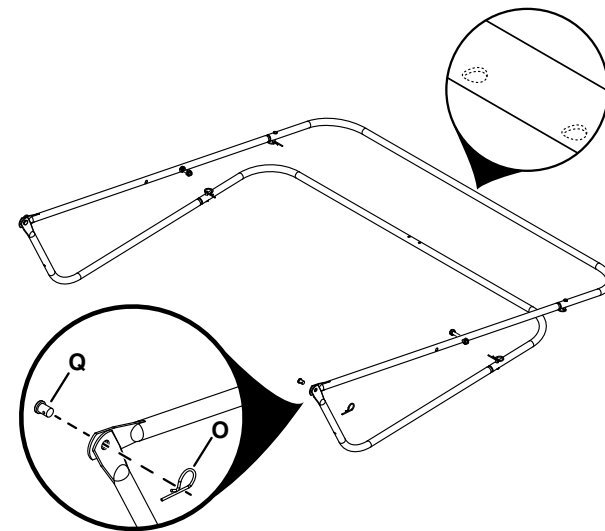

Figure 8
STEP 8: (SEE FIGURE 8)
- Secure the upper and lower hopper tubes together using 3/8" x 1/2" clevis pins (Q) and 3/32" x 1.8" hair pins (O).